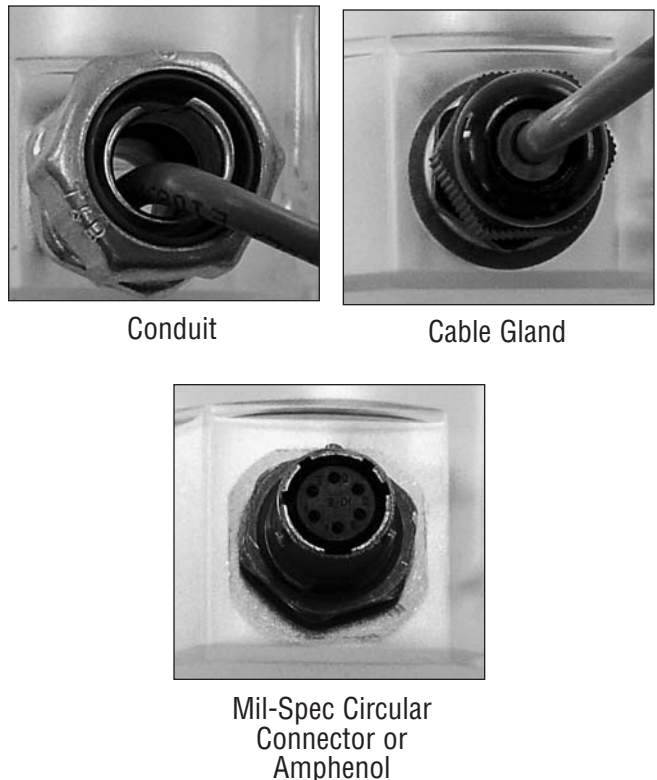

Figure 4 - Pulsar Connector Versions
GE Pulsers generate low frequency pulses for remote volume data collection. Pulsers are available with Single or Dual Mil-Spec (MS) circular connectors, a liquid tight conduit fitting, or a cable gland connection as shown in *Figure 4*.
The ICEX is available with a Single MS style circular connector, a liquid tight conduit fitting, or a cable gland connection (As shown previously in *Figure 4*). *Table 5* provides wiring information for the ICEX.